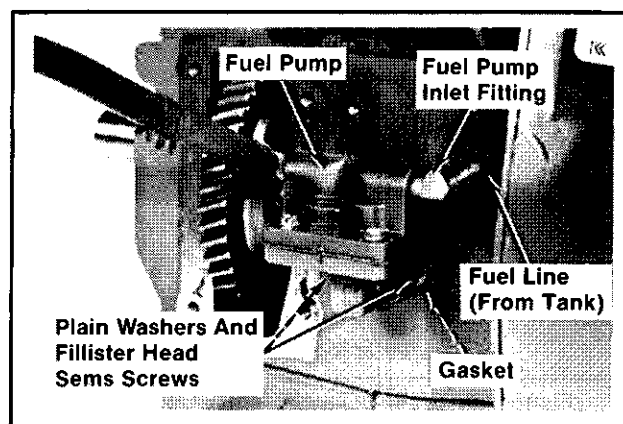

Figure 12B-43. Installing Fuel Pump.
1. Install the gasket, fuel pump, plain washers, and fillister head screws. Refer to Figure 12B-43.
CAUTION: Make sure the fuel pump lever is positioned above the camshaft. Damage to the fuel pump, and subsequent severe engine damage could result if the lever is positioned below the camshaft. Refer to Figure 12B-44.